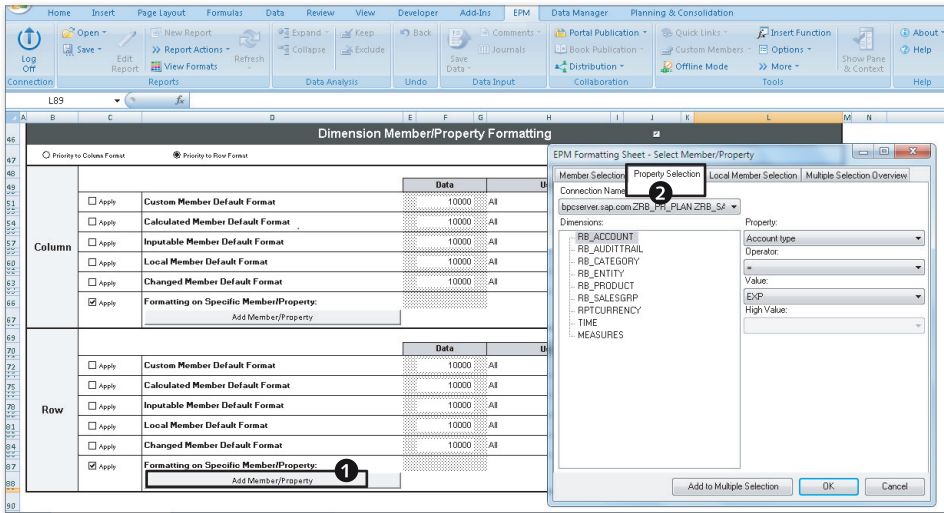
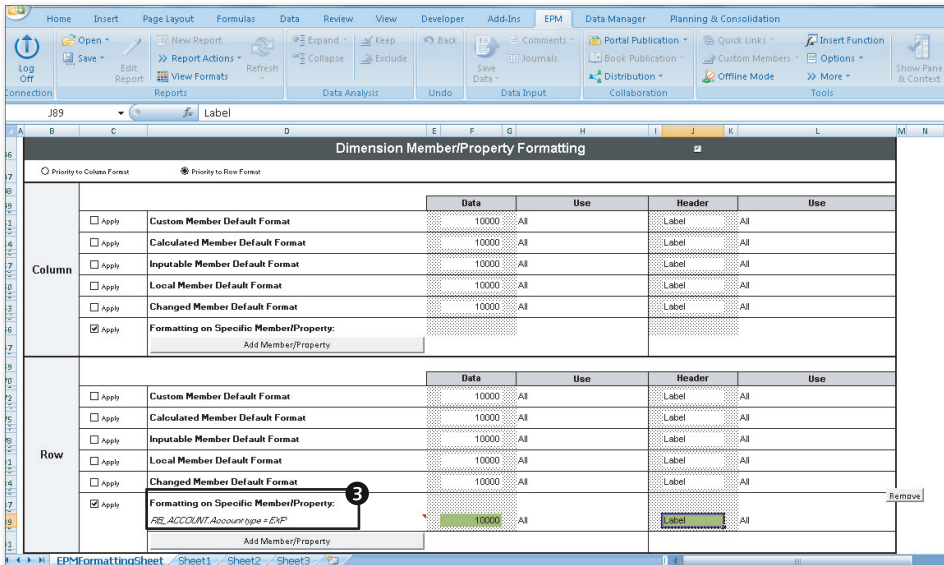
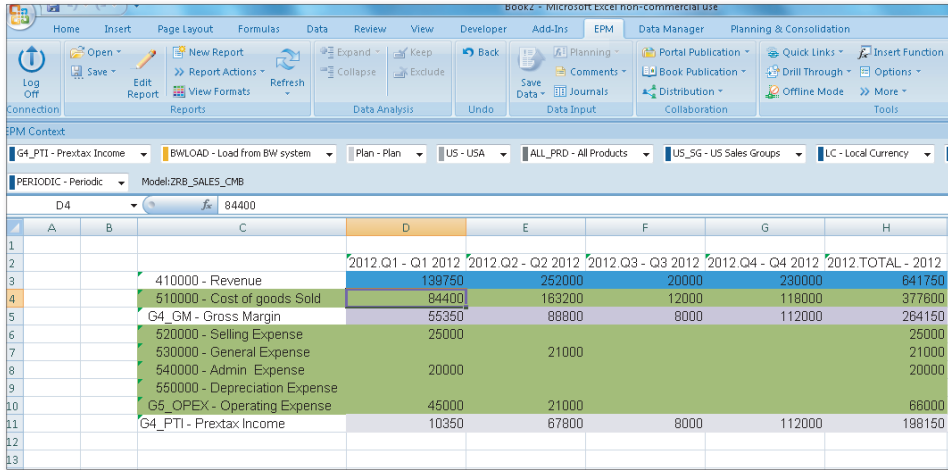

Figure 5.23 Formatting a Report—Part C
Figure 5.24 Formatting a Report—Part D
Figure 5.25 Formatting a Report—Part E
Let's go over the steps to format data based on specific member/property values. Figure 5.23, Figure 5.24, and Figure 5.25 reflect this sequence.
2. Click on ADD MEMBER/PROPERTY to specify the selection values (Figure 5.23, ❶). This will open the EPM FORMATTING SHEET – SELECT MEMBER/PROPERTY dialog box.
3. In the PROPERTY SELECTION tab, specify the criteria for formatting based on the member/property (Figure 5.23, ❷). In this tab, we have specified the criteria for formatting data based on the account type property. Specifically, we have set the criteria to format all of the account dimension members displayed in the report where the account type property equals to EXP.
4. After you make the selections, confirm them by clicking OK. You see the selections carried over and displayed in the FORMATTING ON SPECIFIC MEMBER/PROPERTY area (Figure 5.24, ❸).
5. Notice that the data displayed in the report is formatted based on the criteria specified in this section (Figure 5.25). The settings in the DIMENSION MEMBER/